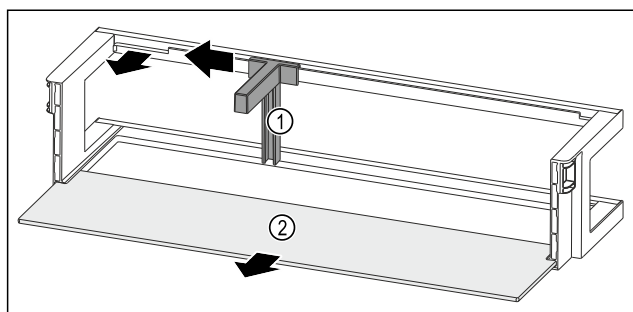

Fig. 95 Door rack with bottle holder and shelf
- Slide the bottle holder Fig. 95 (1) to the side as far as the recess.
- Remove the bottle holder Fig. 95 (1).
- Remove the shelf Fig. 95 (2).